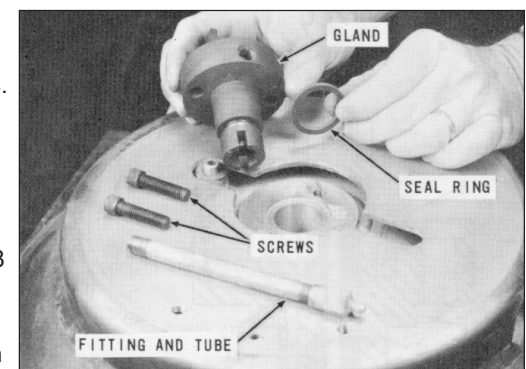

Figure 9 – Gland Removed
- To remove the gland assembly, Figure 9: